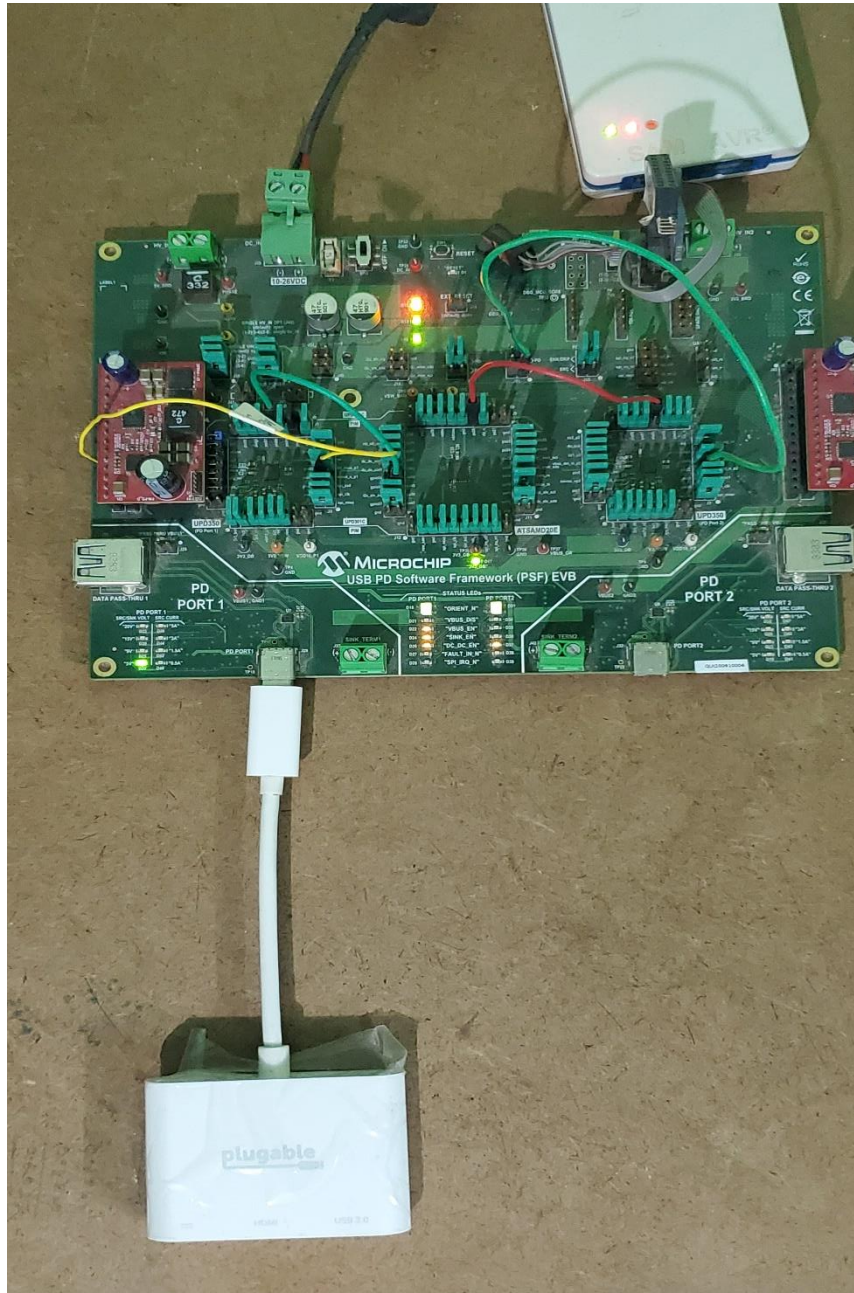

Figure 6.2 PSF and Dock after an FRS
5. Figure 6.2 highlights what the PSF and Pluggable Dock looks like after the FRS has successfully completed. Now, PSF becomes the power source and the dock becomes the power sink.